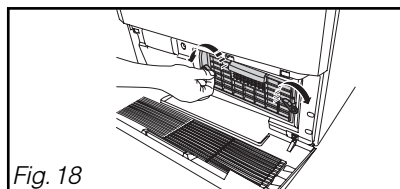

Fig. 18
- Release the condenser (Fig.18).